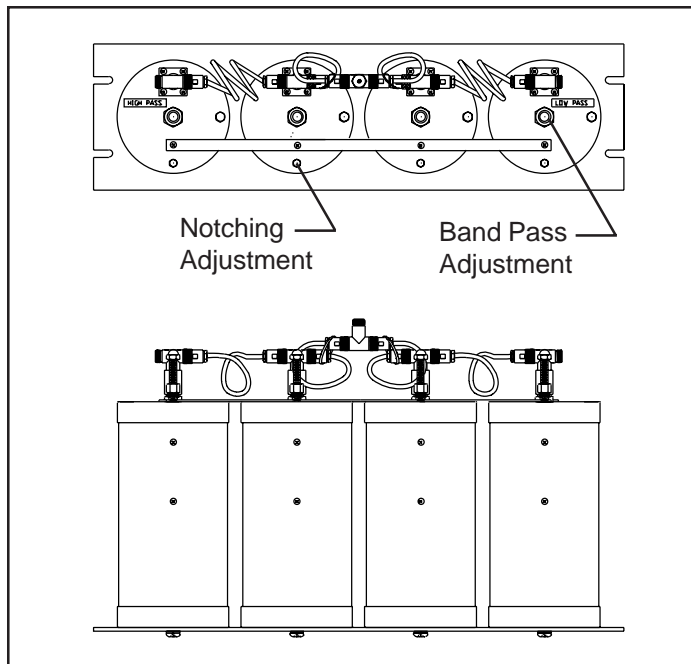

Figure 1 - DB4058W Duplexer.
2. On each cavity, loosen the hex nut that locks the threaded tuning rod (see Figures 1 and 2). On the DB4058N, also remove the outer set screw and loosen the inner set screw on each cavity.